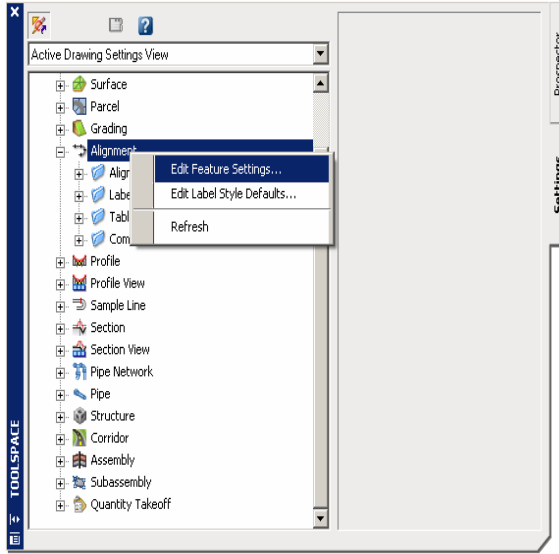

Figure 6A. Edit feature setting for alignments.
- Edit the settings for all alignments that will be created by right-clicking at the top-level setting for an object type. In this case, right-click the Alignment setting to access the feature-level settings for all alignments that are to be created, as shown in Figure 6A.